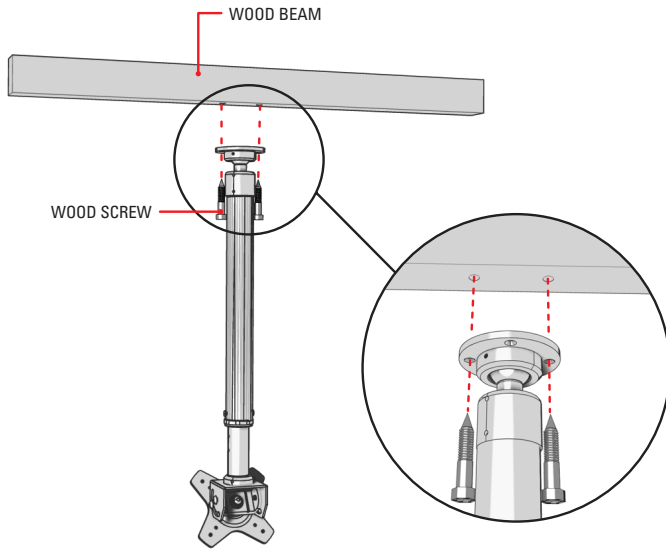

Figure 1. Attaching the Mount to Wood Stud Ceiling
- (1) Use a stud finder to locate and mark the edges of the wood beam that the mount will be attached to.
- (2) Center the mounting flange between the edges of the beam. Use the mounting flange as a template to mark two mounting holes that are not adjacent to each other.
- (3) Attach the mounting flange to the ceiling using two 1/4 x 2-inch wood screws as shown in Figure 1 on page 2.